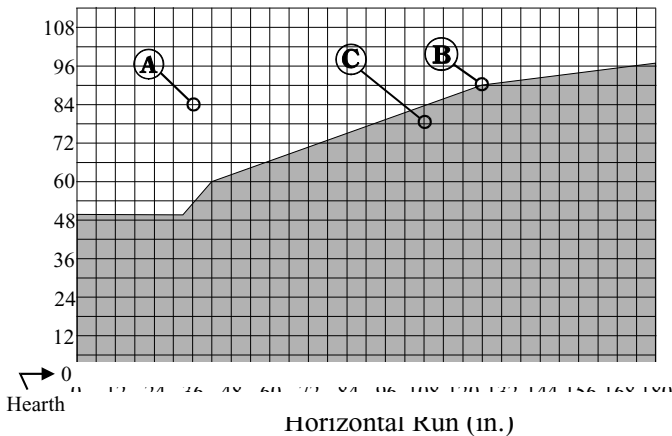

Figure 19. ME34-DV-2 Rear Vent Venting Graph
- your vent run must fall within the limits set by Figure 19
Measure the vertical height from the fireplace hearth to the centre of the termination and the horizontal run from the fireplace flue collar to the wall flange of the termination. Plot on the Venting Graph (Fig. 19) with an 'X'.
Venting runs *must* fall within the limits set by the venting graph (see Figure 19).